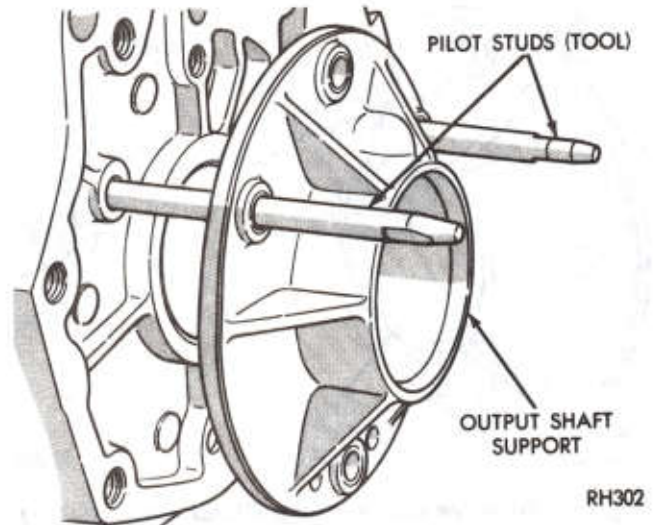

Fig. 38—Install Output Shaft Support (A-904T and A-999)
(6) Tap cam firmly into the case if necessary. Draw retaining bolts down evenly, then tighten to 100 in. lbs. (11 N·m).
(7) Screw two pilot studs Tool C-3288-B into the case (Fig. 38). Position support over the pilot studs, and tap it firmly into the case with a soft-faced hammer.
(8) Remove pilot studs, install bolts and tighten to 150 in. lbs. (17 N·m).